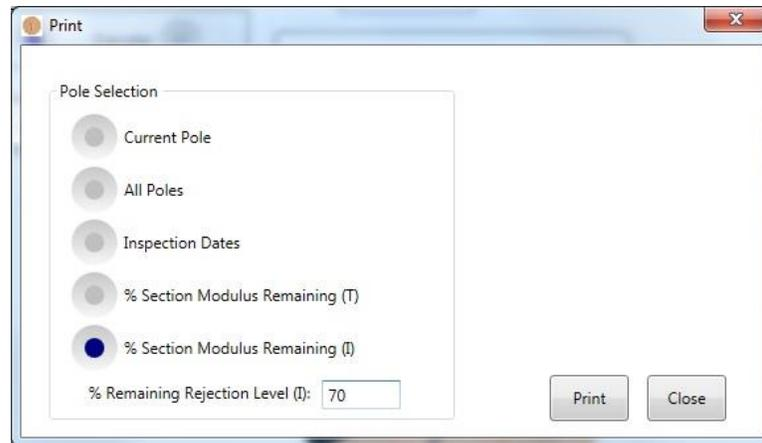

Figure 3-10. % Section Modulus Remaining (I)
- *% Section Modulus Remaining (I)* – All damage data for all poles having a remaining In Line Section Modulus below a given percentage threshold will be printed. The print dialog is shown in Figure 3-10.